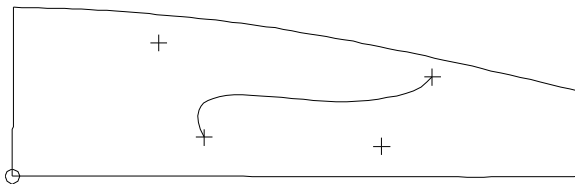

Fig. 3. Flattened pattern outline.
**Flattened pattern outline** (Fig. 3). The pattern outline is shown in bright magenta, on a layer named SurfName\_Boundary, where SurfName is the name of the surface from MultiSurf.